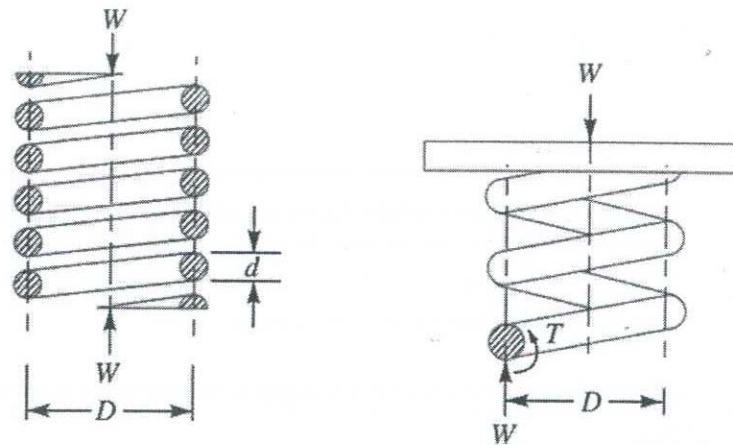

Figure Q4(c) Free body diagram of axial loaded helical spring
- c) Consider a part of the compression spring shown in Figure Q4 (c).